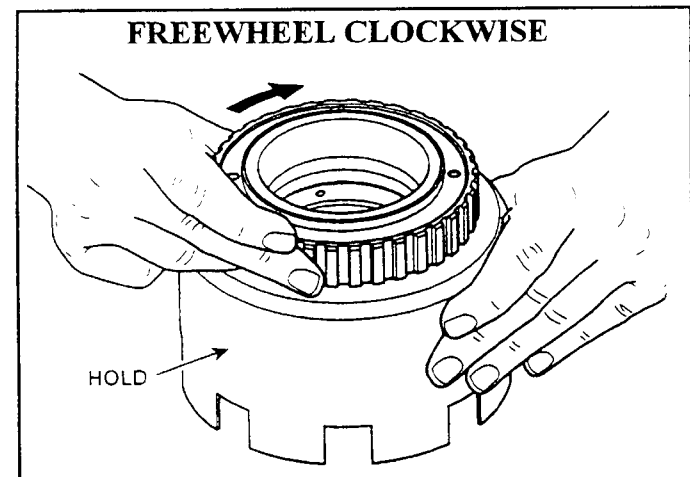

Figure 150
16. Verify the proper operation of the roller clutch. While holding the reverse input housing, roller clutch cam should only freewheel clockwise, as shown in Figure 150.
17. Install a new 2nd roller clutch retainer (450) on the housing, using tool J-41235 to press the retainer into place.